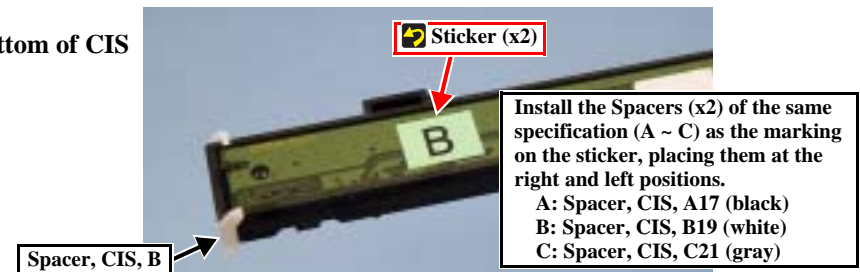

Figure 4-50. Installing Spacers CIS
- When replacing the CIS Unit, check the sticker on the Bottom Board, and use the Spacers (x2) of the same specification (A ~ C) as the marking on the sticker, placing them at the right and left positions. (Fig. 4-50)